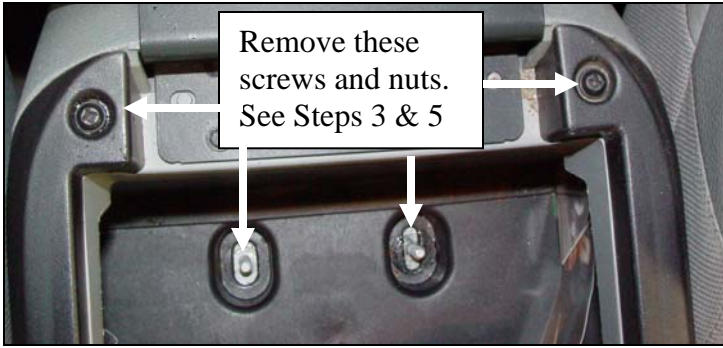

Figure 1
**Step 3:** After removing bezel, remove top of center console by removing the screws at the rear, under arm rest. (Figure 1) Gently work top section of console up and over the parking brake arm.
**Step 5:** Remove the (2) screws at front of console and the (2) nuts inside the storage area under armrest and remove center console. (Figure 1) **NOTE:** If there is a power outlet in the rear of the console, be sure to unplug it before removing it!